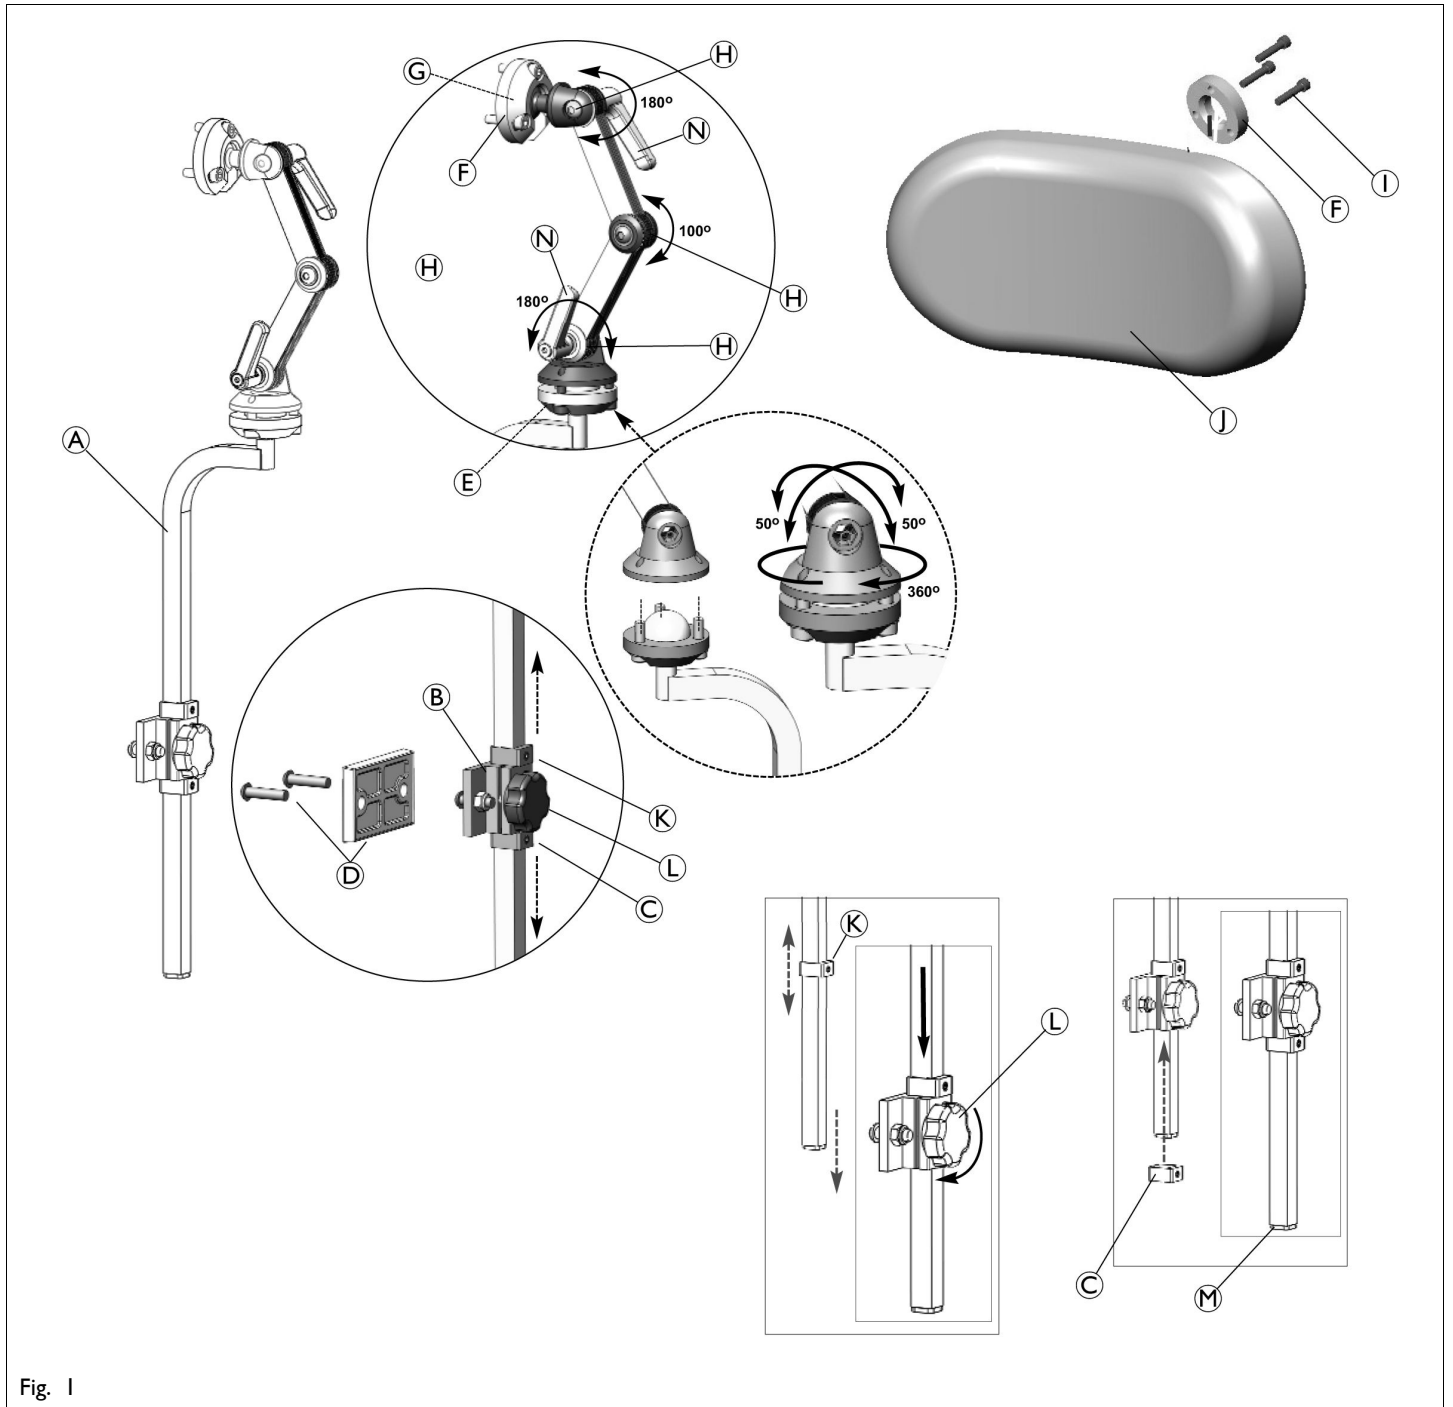

Fig. 1
- Matrix® Elan Hardware (MEHW, post length 356 mm) or Matrix® Elan Mini Hardware (MEMH, post length 254 mm) (see Fig. 1)
2.1 Installing the mounting hardware / headrest pads (Fig. 1)